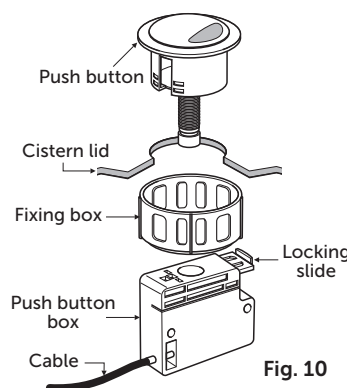

Fig. 10
- Fit the push button into the cistern lid and secure with the fixing box, (Fig. 10).